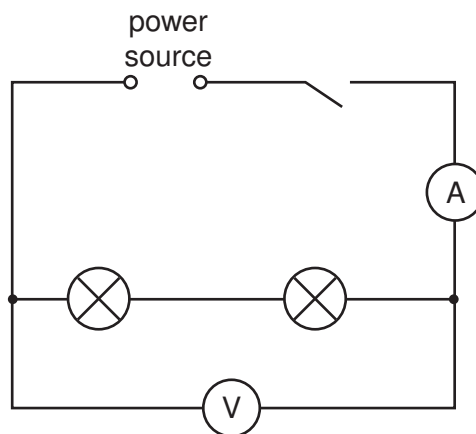

Fig. 3.1
- (vi) Sufficient connecting leads to set up the circuit shown in Fig. 3.1, plus one additional lead.
1. The circuit is to be set up for the candidates as shown in Fig. 3.1.
Reconnect the circuit as shown in Fig. 3.1.